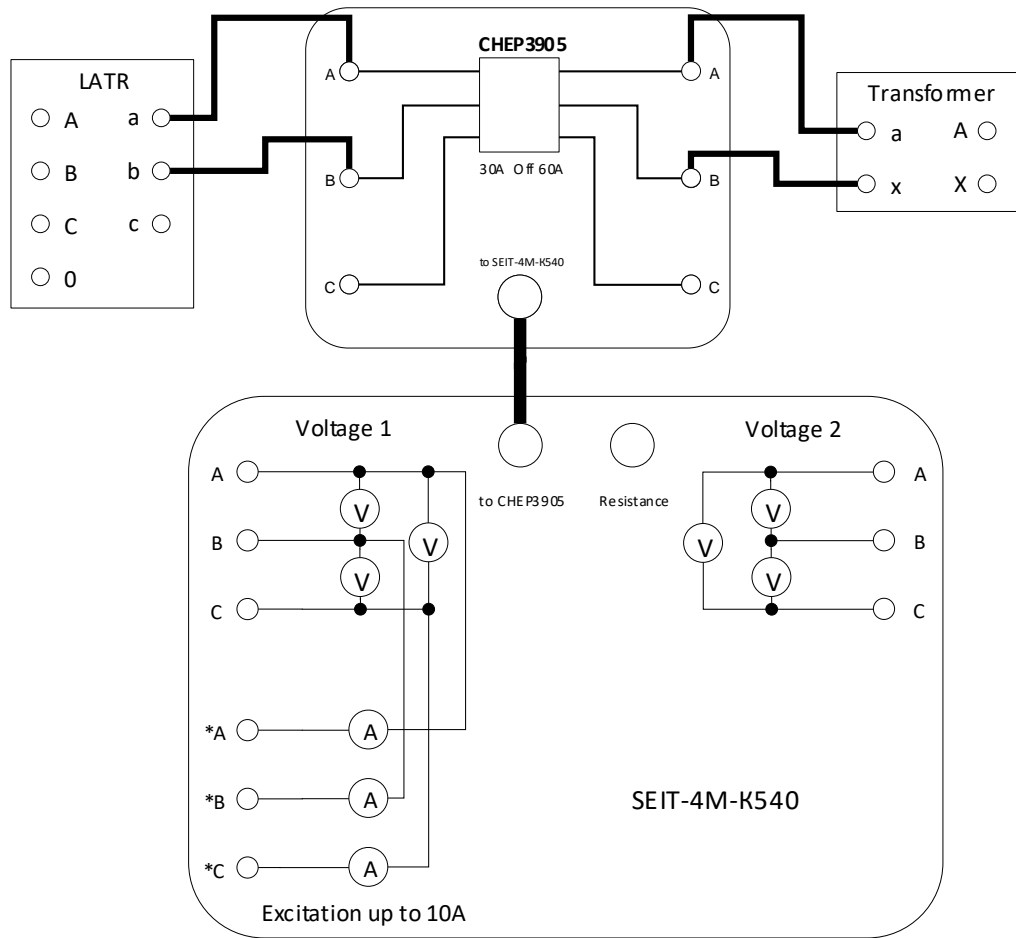

Fig. 13. Connection Circuit for a Single-Phase Transformer Open-Circuit Test using CTU
5.3.1.4. When using CTU to test a single-phase transformer, assemble the circuit shown in Fig.13.